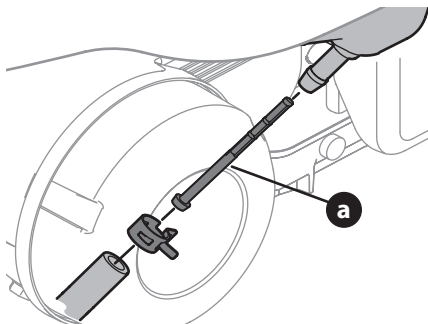

Figure 16
2. Remove hose clamp from fuel line and remove fuel line from tank outlet (Figure 16).
4. Grasp new fuel filter from shouldered end and insert it completely to the shoulder into the fuel tank outlet (Figure 16).